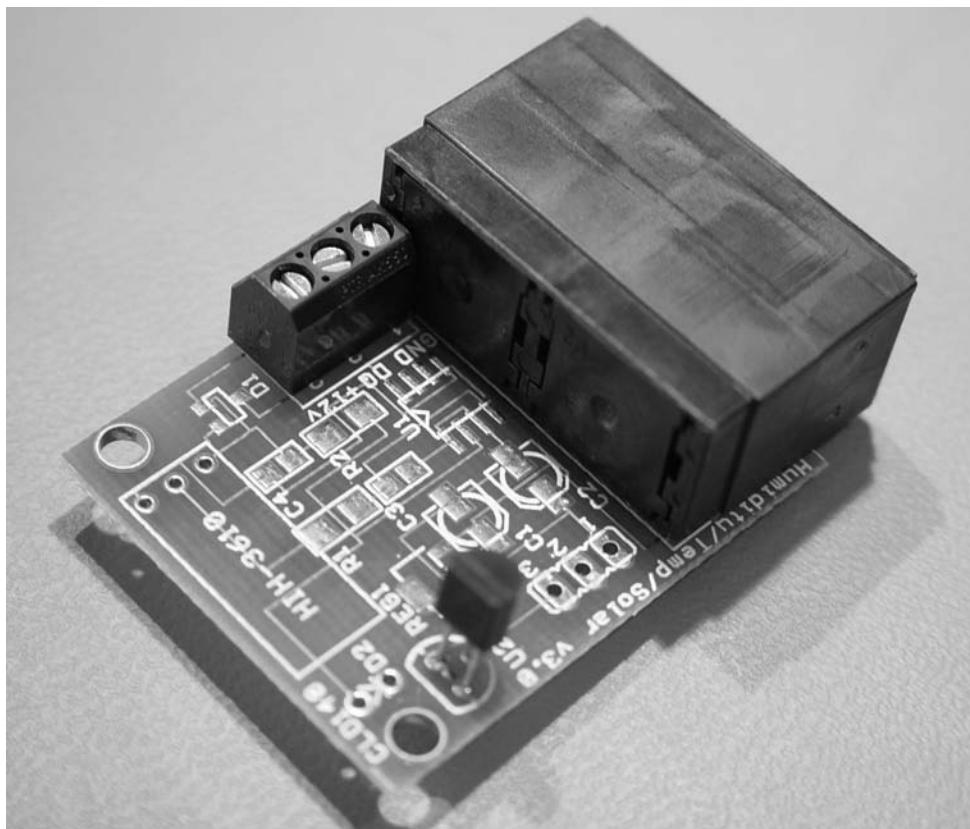

FIGURE 5-7: Completed Hobby-Boards temperature sensor.
4. Inspect. Inspect each connection to make sure there are no shorted parts. Figure 5-7 shows the completed board.